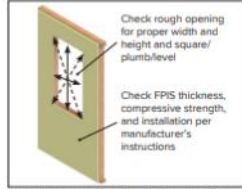

Figure 1. Rough opening and FPIS verification.
- Verify that the rough opening is level, plumb, square, and the size required for the specified window product plus clearance for a rough opening gap as recommended by the window manufacturer (typically the rough opening width and height are 1/2\" to 3/4\" greater than the window unit dimensions). See Figure 1.